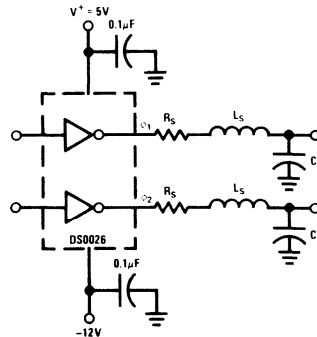

FIGURE 3. Use of Damping Resistor to Eliminate Clock Overshoot
**Overshoot:** The output waveform of a clock driver can, and often does, overshoot. It is particularly evident on faster drivers. The overshoot is due to the finite inductance of the clock lines. Since most MOS registers require that clock signals not exceed VSS, some method must be found in large systems to eliminate overshoot. A straightforward approach is shown in Figure 3. In this instance,